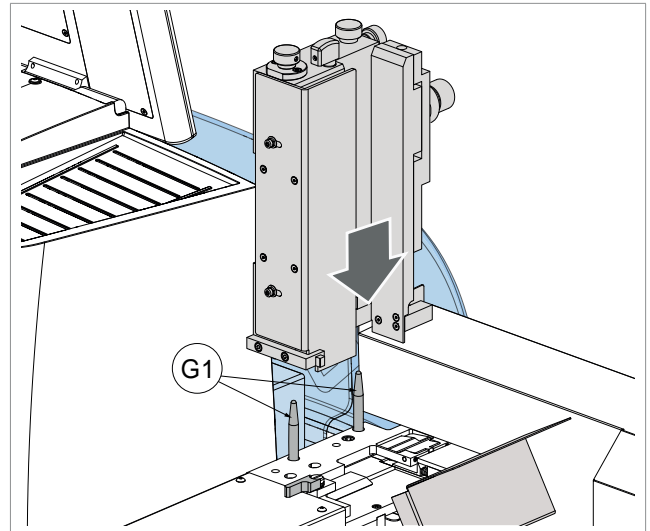

Fig. 36
- 3) Insert the top loader, centering on the pins (G1) (Fig. 36).